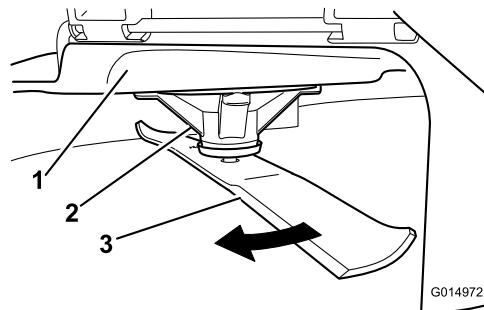

Figure 46
2. While wearing thickly padded gloves, or other adequate hand protection, slowly rotate the blade to be measured into a position that allows effective measurement of the distance between the cutting edge and the level surface the machine is on (Figure 46).